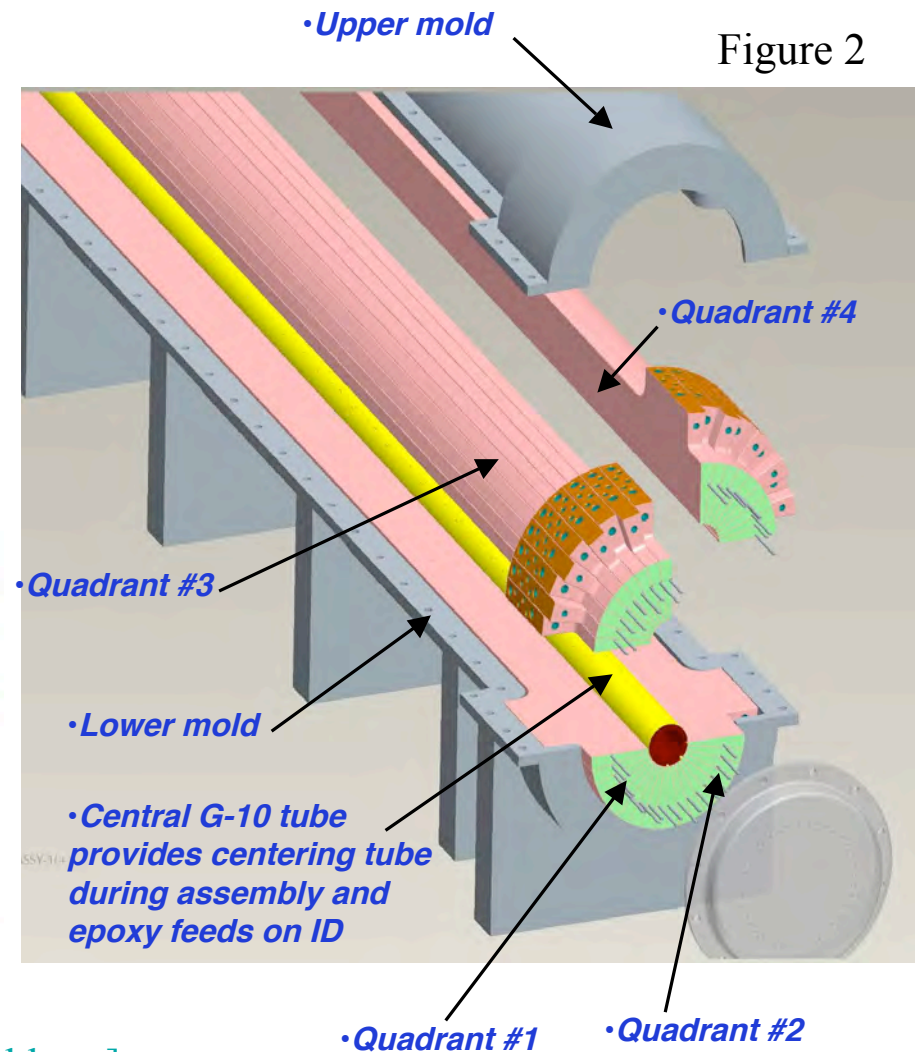

Figure 2
- Assemble 4-quadrants together [Figure 2]